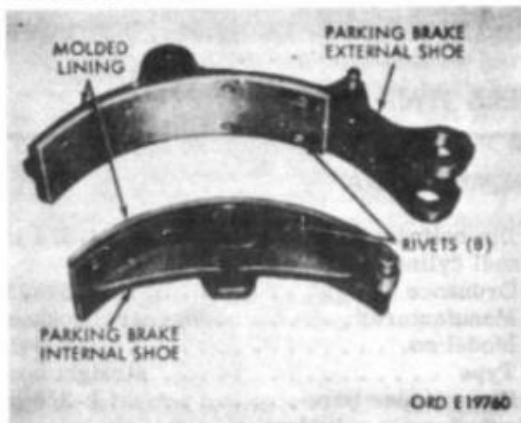

Figure 137. Relining brakeshoes
d. Assembly (Relining). To replace the worn or damaged brakeshoe lining (refer to fig. 137): Grind off the rivet heads on the back of the shoe and punch out the old rivets and pry off the old lining. Clean, inspect, and repair the shoe as in a, b, and c, above. Rivet the specified lining to the shoe.